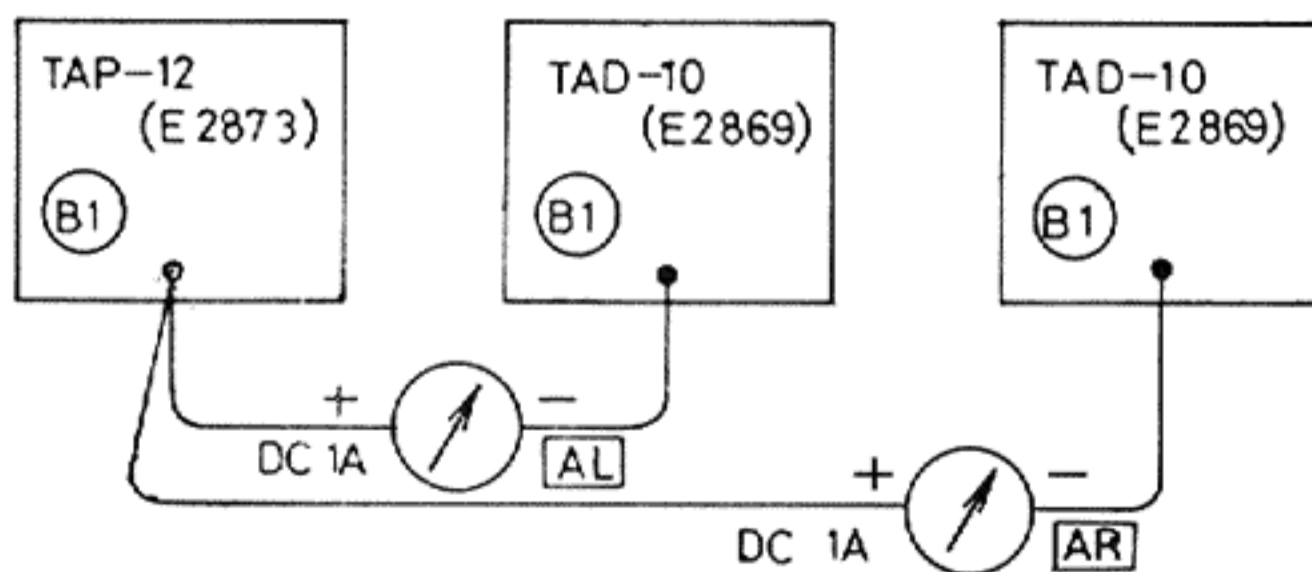

Fig. 16
- Connect an 1A D. C. amperemeter [AL], [AR] in series with B₁ wirings for L. channel and R. channel respectively as shown in Fig. 16.